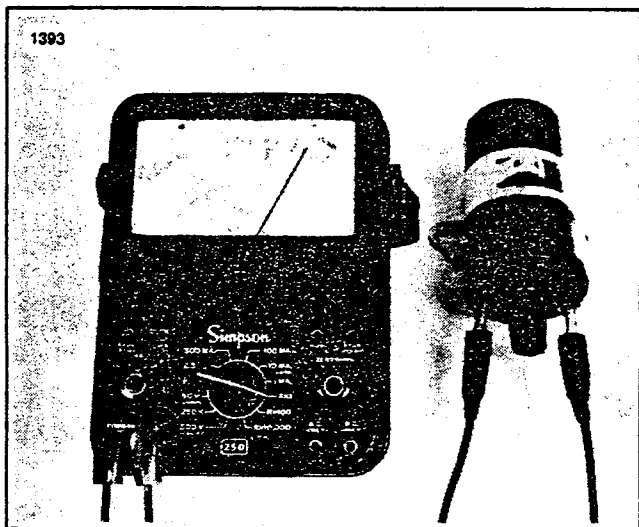

Figure 8-17. Checking Primary Winding Resistance
3. See Figure 8-17. Check primary winding resistance. Set ohmmeter to RX1. Reading should be 3.4 to 4.2 ohms.